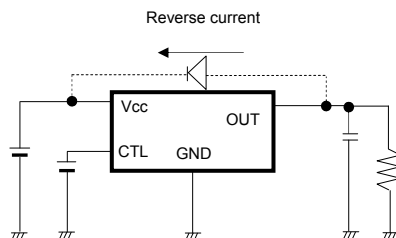

Fig. 36: Bypass diode
2) This IC is bipolar IC that has a P-board (substrate) and P+ isolation layer between each device, as shown in Fig.36. A P-N junction is formed between this P-layer and the N-layer of each device, and the P-N junction operates as a parasitic diode when the electric potential relationship is $GND > \text{Terminal A}$, $GND > \text{Terminal B}$, while it operates as a parasitic transistor when the electric potential relationship is $\text{Terminal B} > \text{Terminal A}$. Parasitic devices are structurally inevitable in the IC. The operation of parasitic devices induces mutual interference between circuits, causing malfunctions and eventually the destruction of the IC. It is necessary to be careful not to use the IC in ways that would cause parasitic elements to operate. For example, applying a voltage that is lower than the GND (P-board) to the input terminal.